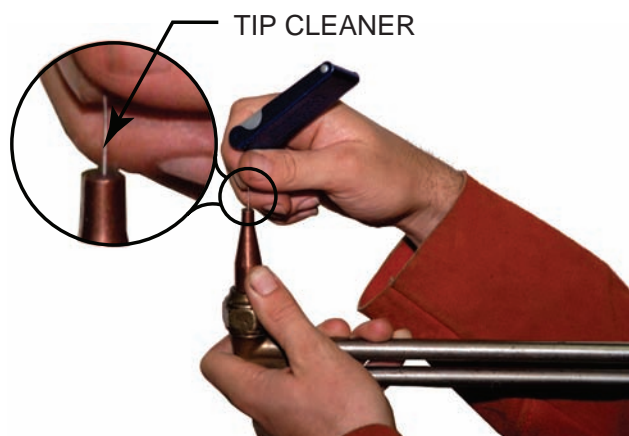

FIGURE 6-17 A tip cleaner should be used to clean the flame and center cutting holes. Courtesy of Larry Jeffus.
3. Try several sizes of tip cleaners in a preheat hole until the correct size cleaner is determined. It should easily go all the way into the tip, Figure 6-17.